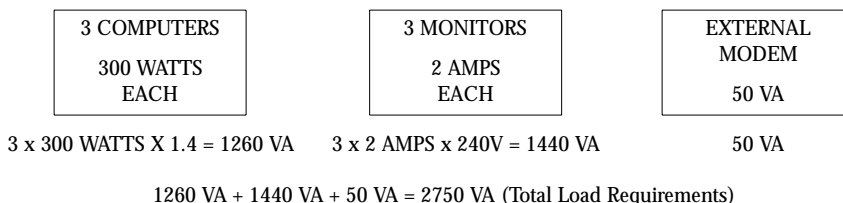

Figure 2. Volt-Amperes Calculation Example
3. Add all of the resultant VA ratings together to obtain the total load requirements of the equipment to be protected (see Figure 2).